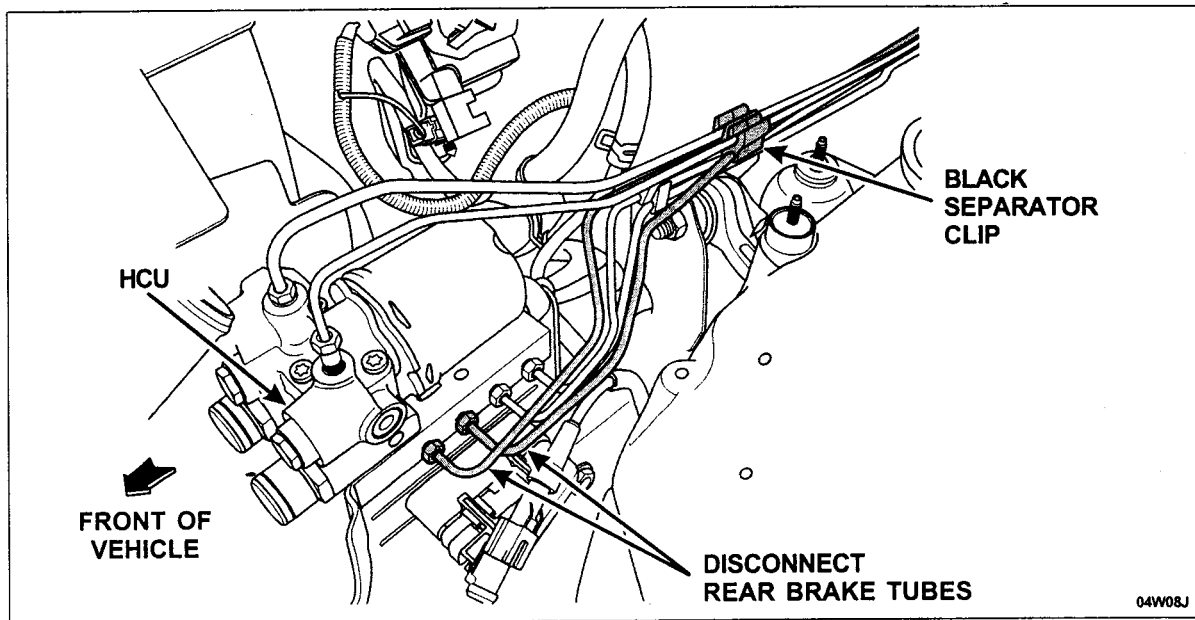

FIGURE 10
Disconnect the two (2) tubes for the rear brakes from the ABS HCU. See Figure 10.
4. Note the positions of the brake tubes in the black separator clips, then disengage the two (2) rear brake tubes from the black separator clips in the engine compartment. Keep the separator clips attached to the other tubes. See Figure 10.